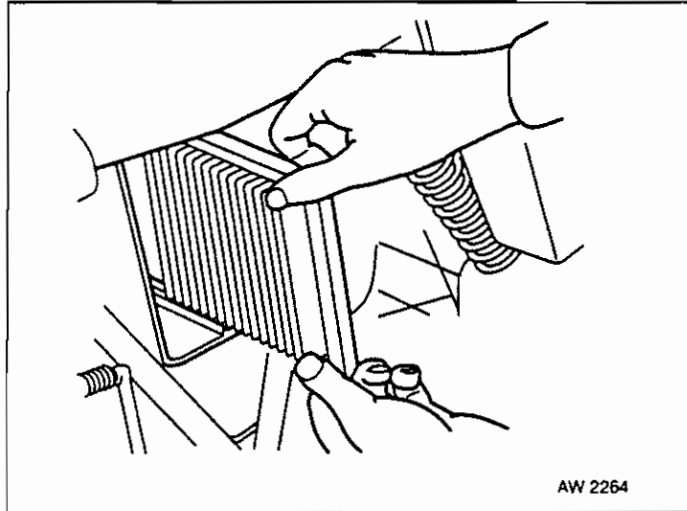

Fig 4.3 Air Filter
- (3) Remove the filter and clean the inside of the airbox. Fig 4.3 refers.
- (4) Be sure the rubber drain bladder at the bottom of the airbox is clean.